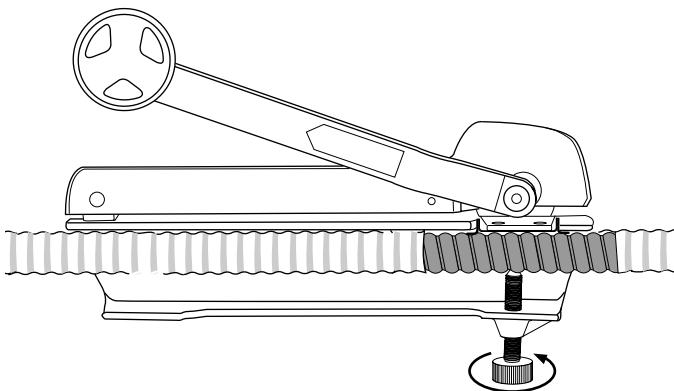

Figure 6
4.6 Place the exposed section of armor in the cable guide of the armor splitting tool (Figure 6). Tighten the tool's thumb screw a to secure the cable in the tool (Figure 6).